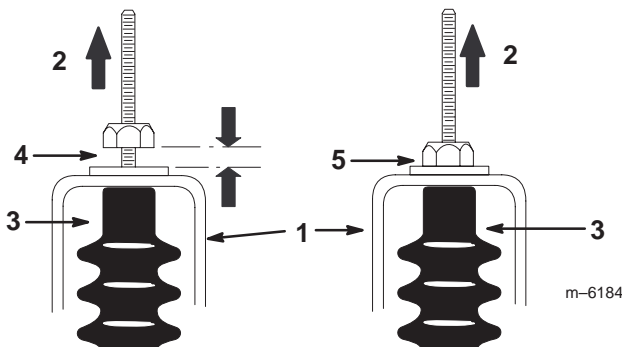

Figure 19
5. Pull up on each shift cable and ensure that there is no gap between the nut/washer and the neutral bracket (Fig. 19). If there is a gap, tighten the nut.